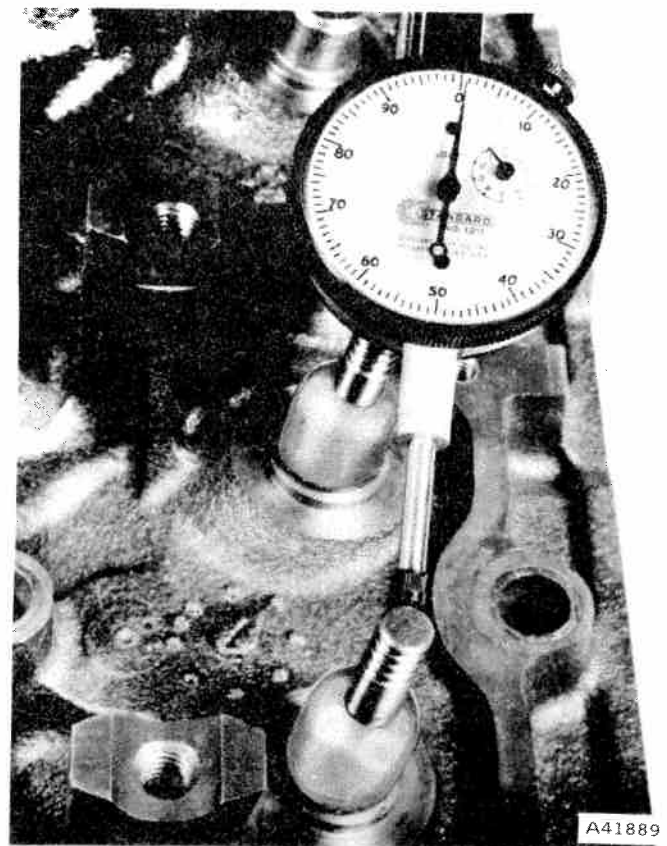

Fig. 1A-17 Checking Stem-to-Guide Clearance
- Use a dial indicator to measure the lateral movement of the valve stem with the valve installed in its guide and just off the valve seat (fig. 1A-17). Refer to specifications.